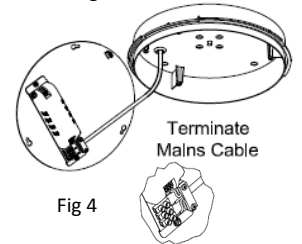

Fig 4
- Terminate the cable into the terminal block mounted on the underside of the gear tray ensuring correct polarity is observed and the luminaire is earthed – Fig 4